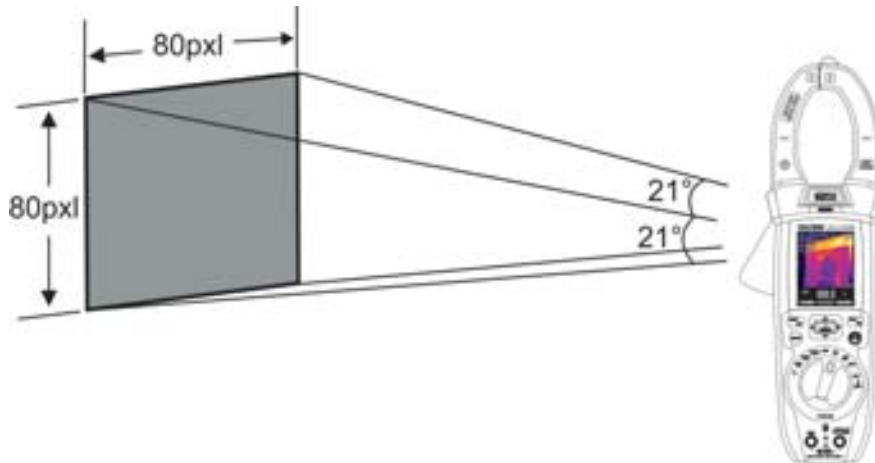

Fig. 43: Representation of the field of view (FOV) of ECLIPSE
7. For accurate temperature measurements, make sure the surface of the measured object is always bigger than the surface measurable by the instrument, which is given by the instruments field of view (FOV). ECLIPSE has a field of view of $21^\circ \times 21^\circ$ and a detection vector of 80x80 (6400) pxl, as described in Fig. 43